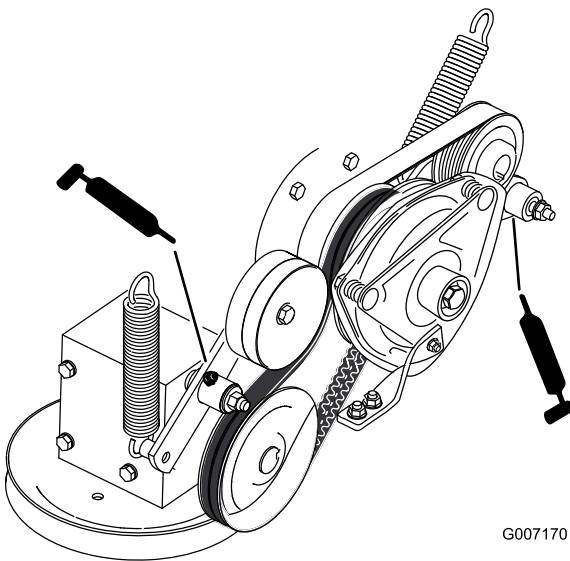

Figure 50
8. Grease the PTO-drive belt idler arm (Figure 50).
9. Grease the pump belt idler arm (Figure 50).